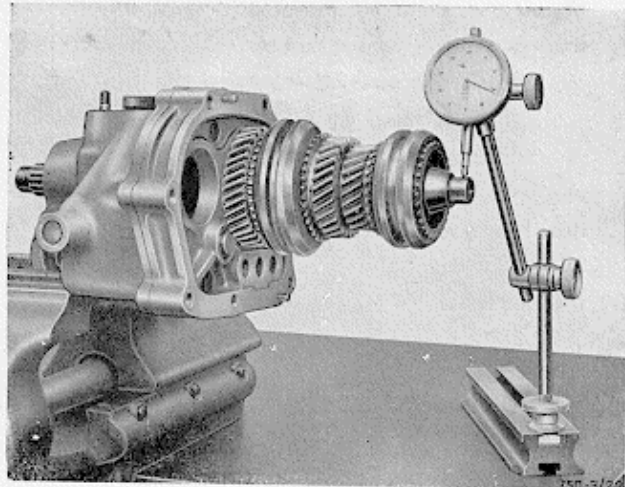

Fig. 22 - Checking the centring of primary shaft mounted in the rear cover with intermediate flange
- 5) As shown in Fig. 22, place the rear cover in a vice and check that, when turned, the opposite end of the shaft does not move more than 0.05 mm. Any correction needed can be obtained by rotating the distance piece between the reverse pinion and the rear cover or the transmission connecting fork. If this is not sufficient, check whether faces of the driven reverse pinion are parallel.